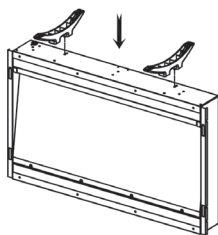

Figure 8
- The heater base has two plastic posts, make sure the posts insert the right holes at bottom of the heater as indicated (see Fig. 8).